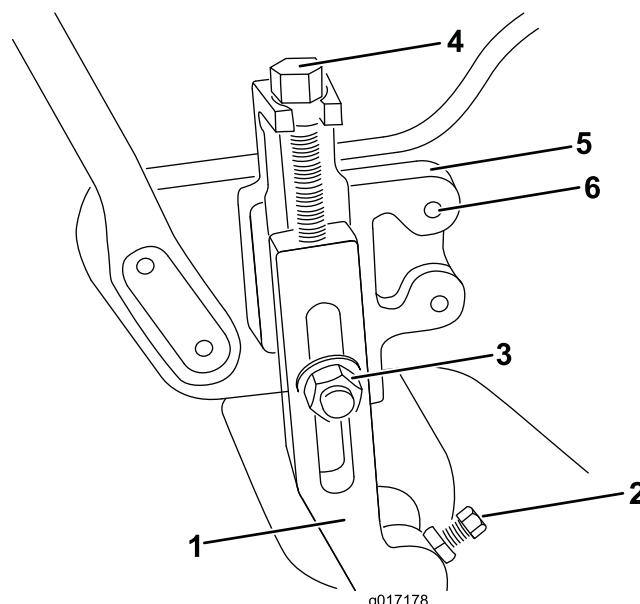

Figure 1
1. Loosen the jam nuts and set screws securing each end of the front roller to the height-of-cut arms (Figure 1).
2. Remove the carriage bolts and locknuts securing the height of cut arms to the adjusting brackets (Figure 1). Remove the height of-cut arms and roller assembly.
3. On the Greensmaster 1600 only, remove the height-of-cut adjusting screws, jam nuts and set screws from the height-of-cut arms (Figure 1).
On the Greensmaster 800 and 1000 only, remove the two taper face bolts securing the right and left height-of-cut brackets to the side plates (Figure 1). Install the height-of-cut brackets to the opposite sides of the machine with the bolts removed. Use the rear sets of mounting holes in the side plates.